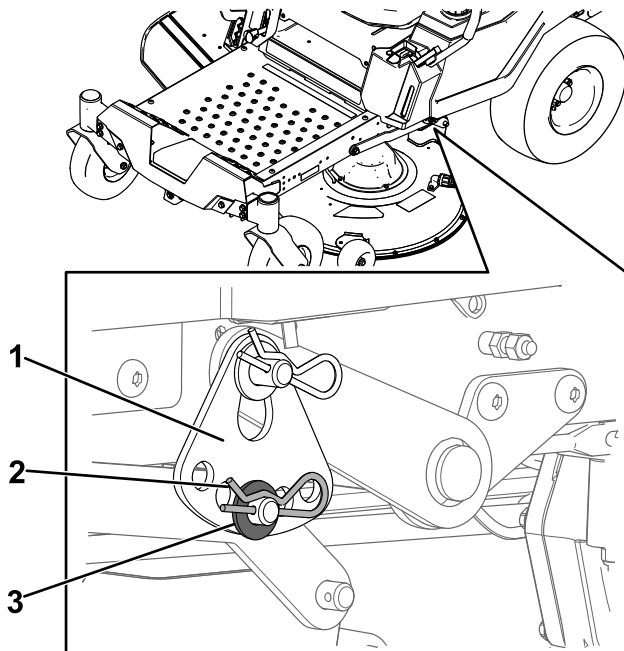

Figure 67
6. Remove the hairpin cotter and washer from the lower lift-arm pin (Figure 67).